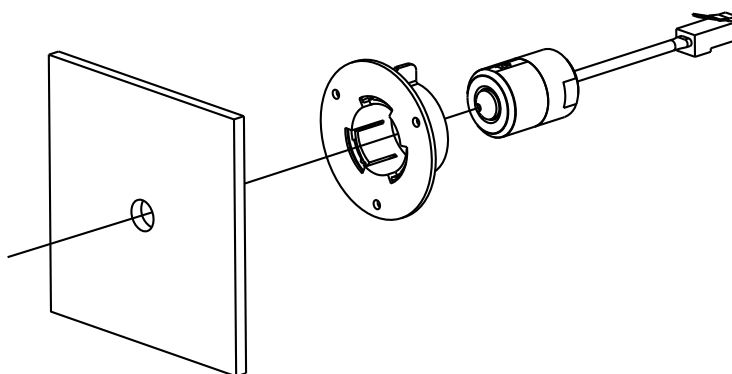

Figure 6-13 Install the Cylindrical Sensor
4. Turn the locking sleeve to fix the sensor. As shown in Figure 6-13.